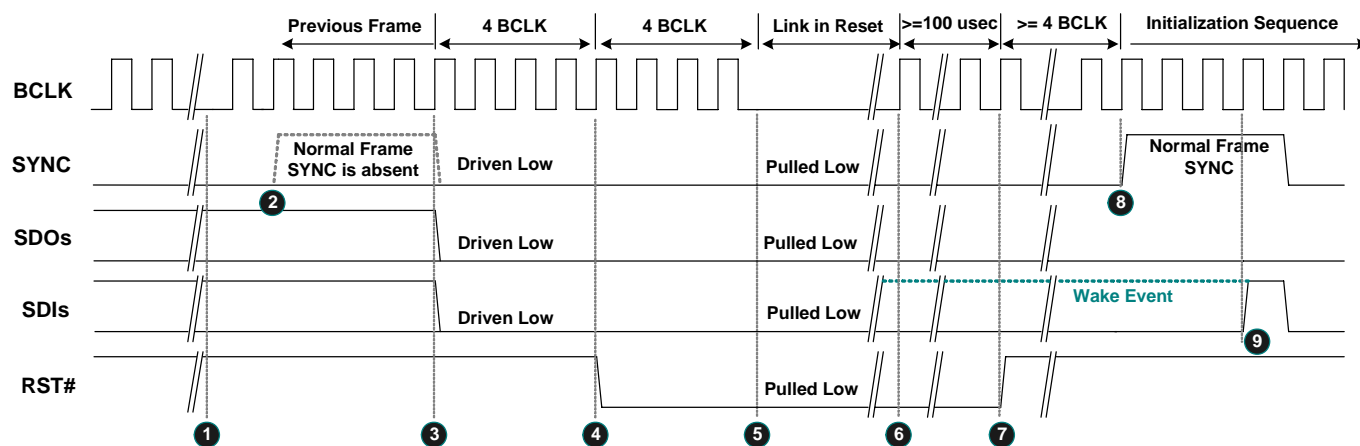

Figure 11. Link Reset Timing
3. Software initiates power management sequences. Figure 11, page 19, shows the ‘Link Reset’ timing including the ‘Enter’ sequence (①~⑤) and ‘Exit’ sequence (⑥~⑨)